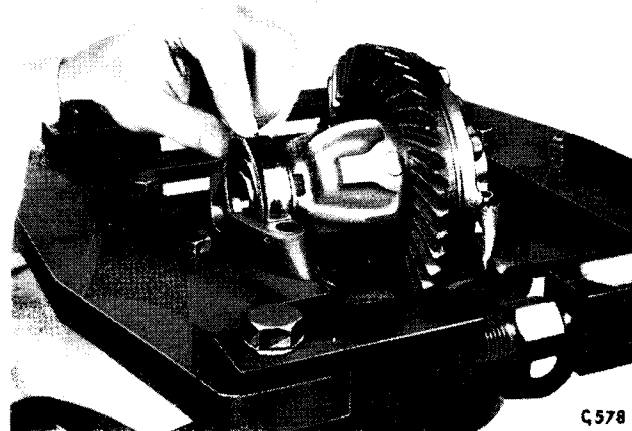

Fig. 30. Using spreading tool to release differential carrier
Remove the bearing cap bolts (49) and detach the bearing caps (47). Assemble the Churchill spreading tool on the housing face as shown on Fig. 30. Spread the fixture by turning the double-ended tensioner screw until it is hand tight, then complete the spread by moving it a further half-turn with a spanner.